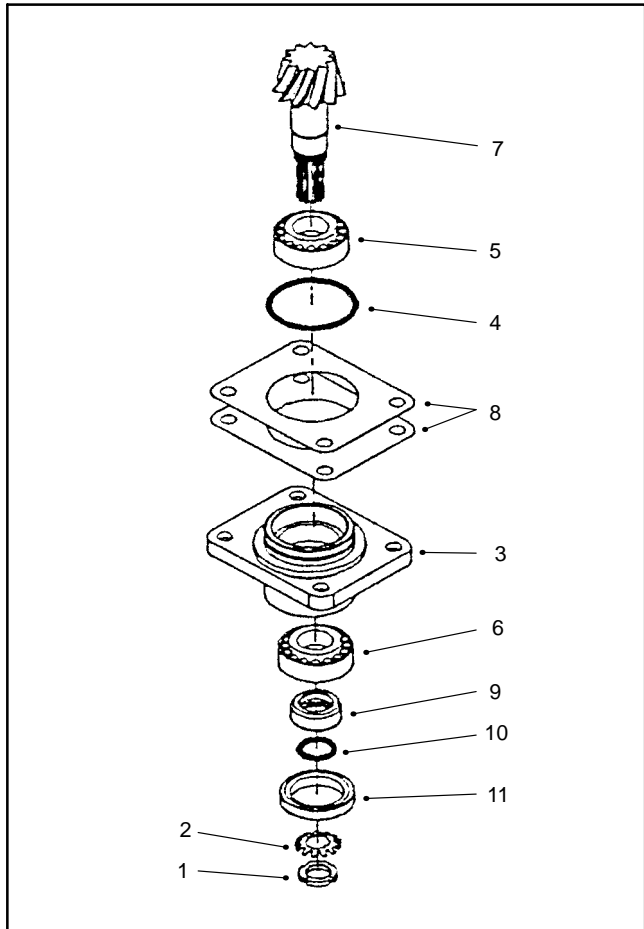

Figure 27
2. Release the stake washer and remove the locknut. Remove and discard the stake washer (Fig. 27).